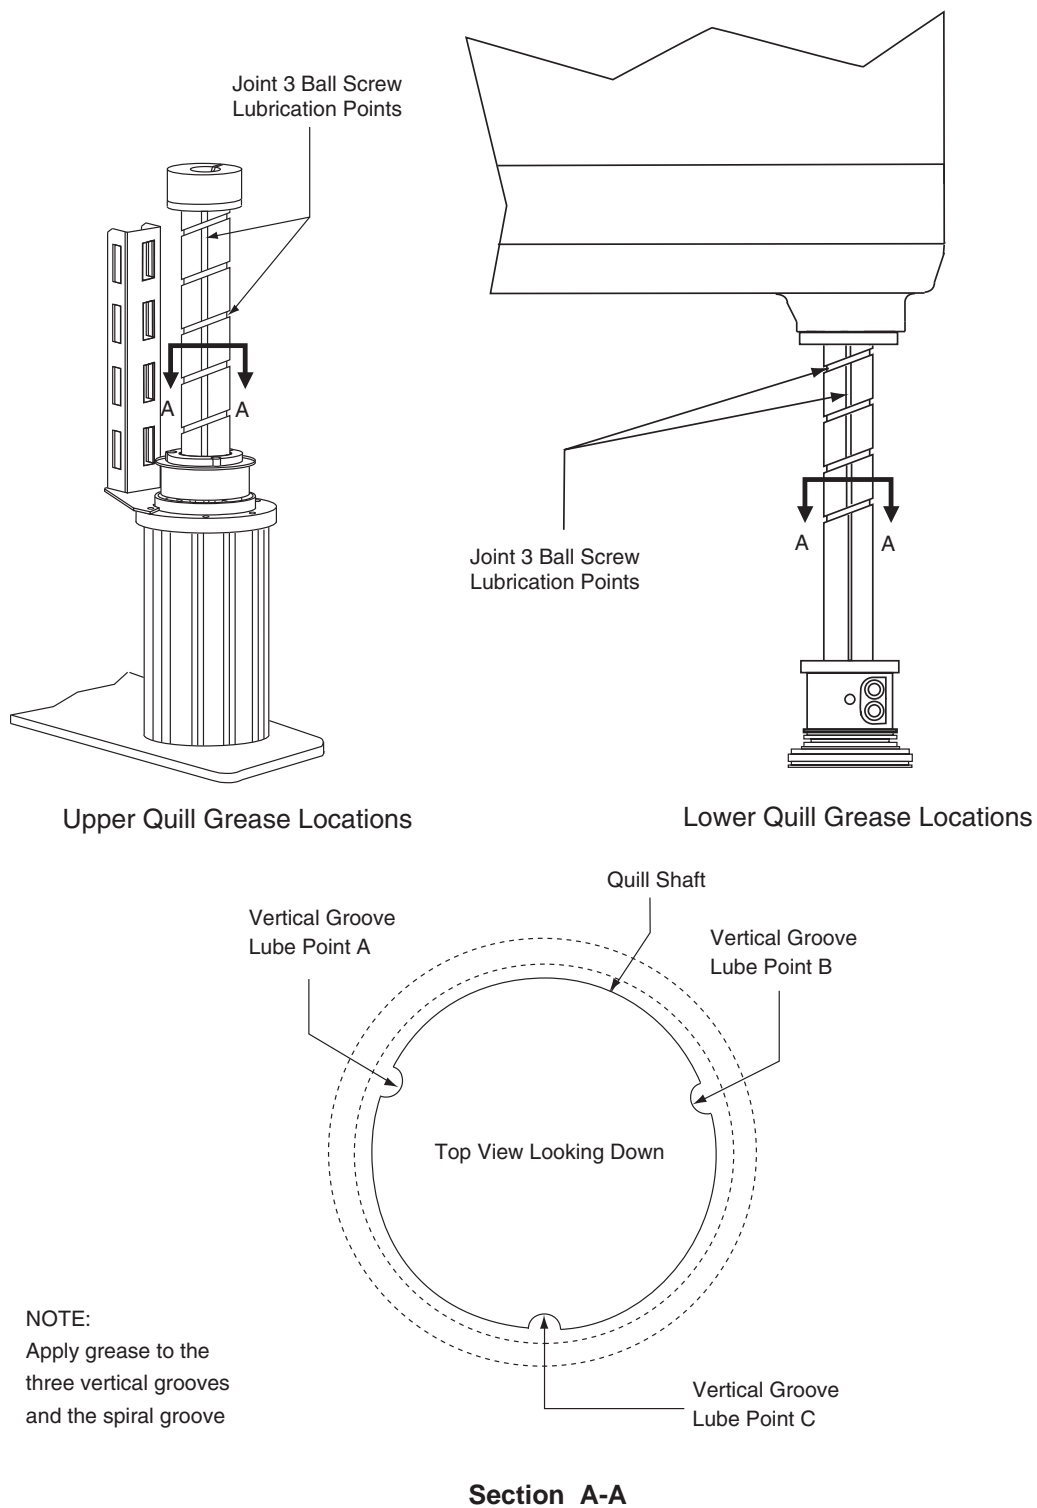

Figure 5-1. Lubrication of Joint 3 Quill
5. Using a syringe, apply a small bead of grease to the Joint 3 ball screw grooves (see Figure 5-1 on page 64).